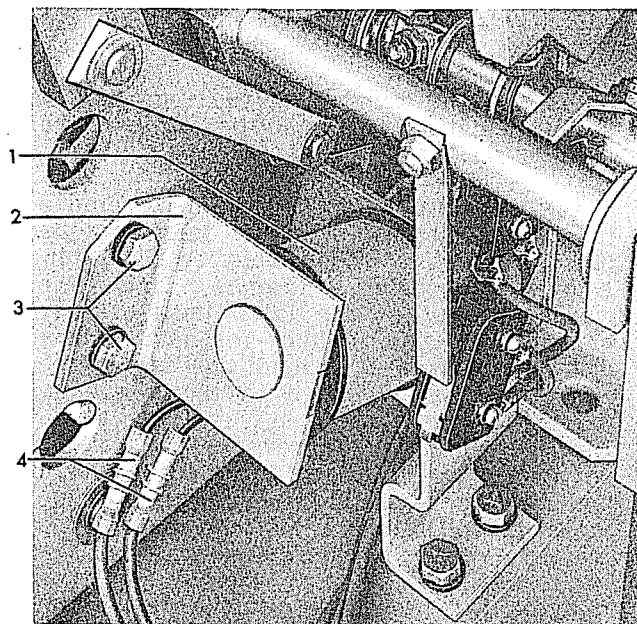

Figure 25 (8029371) Potential Trip Coil
2. Remove two bolts (3) Figure 25 and let the trip coil (1) and support (2) hang free.
To replace the potential trip coil(1) Figure 25, proceed as follows:
2. Cut wires at butt connectors (4) Figure 25.
3. Remove the two mounting bolts (3) and the trip coil support (2).
4. Remove the trip coil (1).